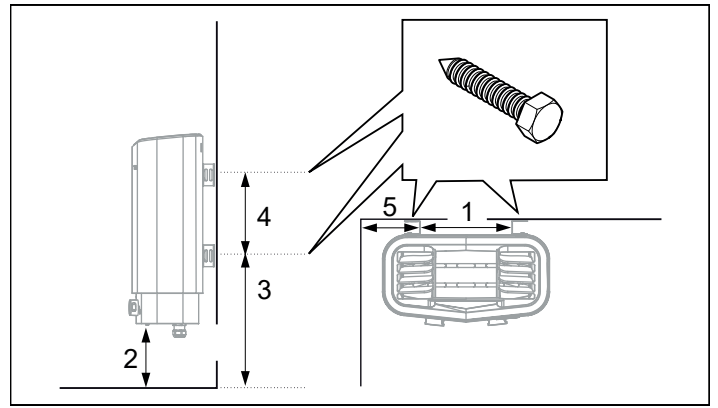

Figure 8: Dimensioning
6. Position the bracket screws according to the specified dimensioning (see Figure 8).